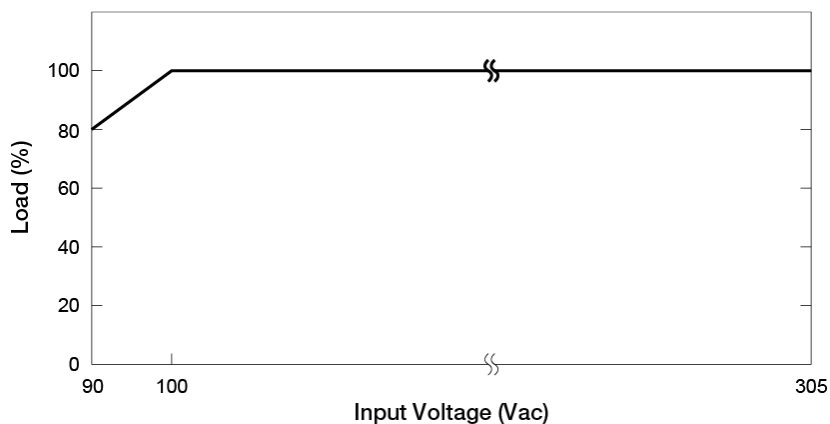

**Fig. 1 De-rating for Horizontal Mounting Orientation**
1. Power supply components may degrade, or be damaged, when the power supply is continuously used outside the shaded region, refer to the graph shown in Fig. 1.
- If the device is continuously operating in a mounting orientation other than those shown in Fig. 2. or at high ambient temperature outside the shaded region shown in Fig. 1., the device may be damaged or degraded.